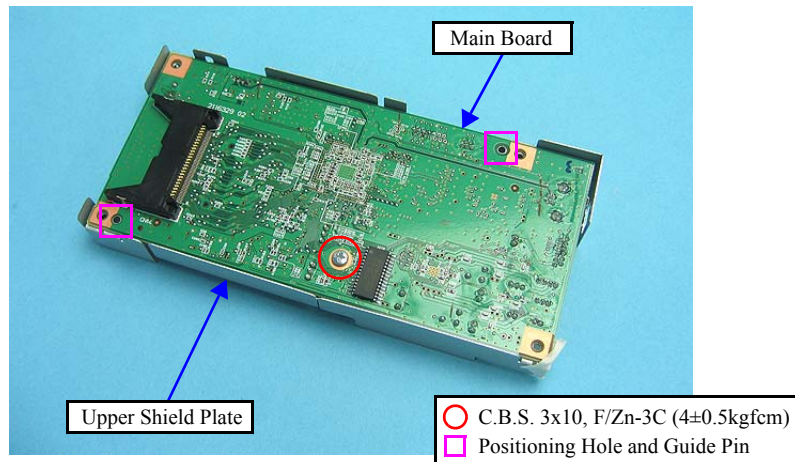

Figure 4-131. Removing the Main Board (2)
- Align the positioning holes of the Upper Shield Plate with the guide pins of the Main Board as shown in Figure 4-131.